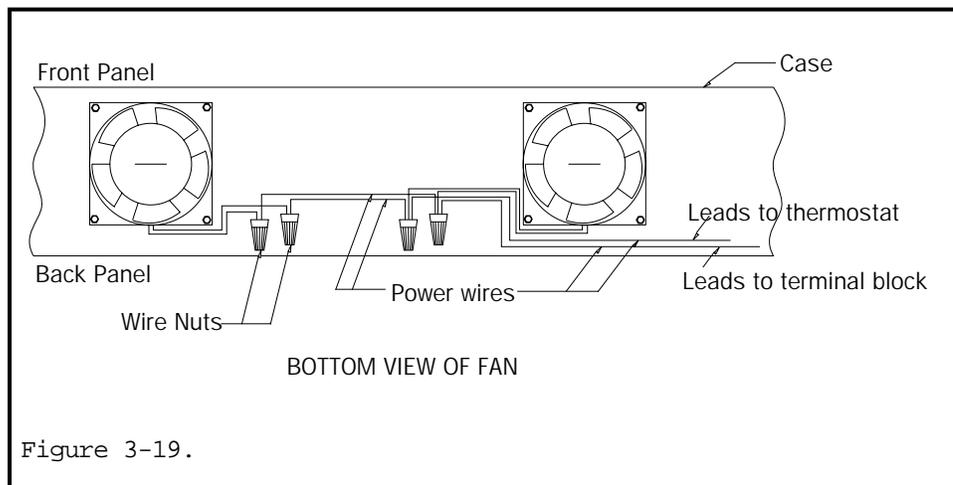

Figure 3-19.
1. Remove the wire nuts from the power wires connected to the defective fan and, if necessary, separate the wires (see figure 3-19.)